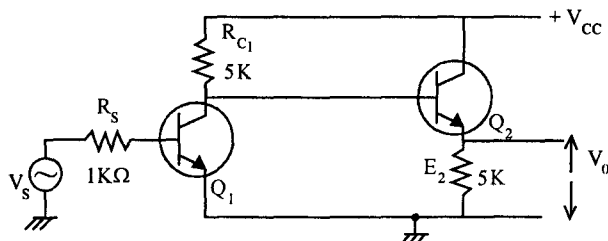

Fig. 2.8 Two stage cascaded amplifier circuit
The Transistor Q_1 is in Common Emitter configuration (Fig. 2.8). The second Transistor Q_2 is in Common Collector (CC) configuration. Output is taken across $5K$, the emitter resistance. Collector is at ground potential in the A.C. equivalent circuit.
The small signal Common Emitter configuration circuit reduces as shown in Fig 2.8.